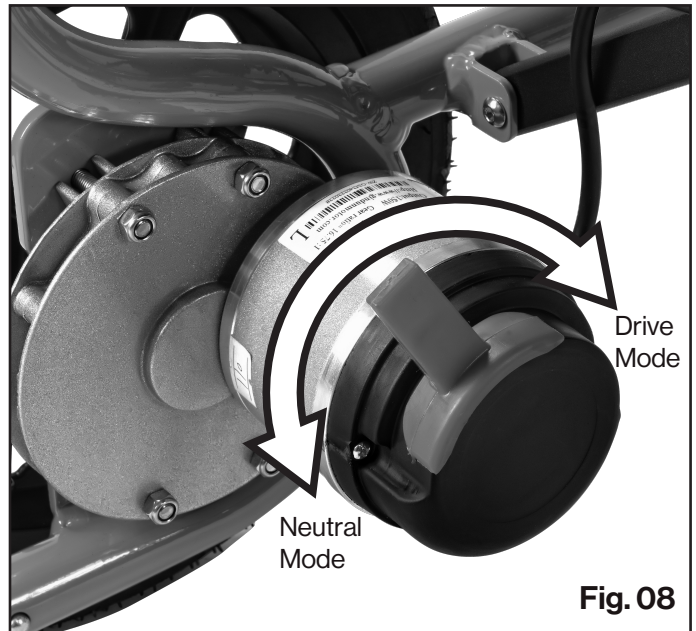

Fig. 08
7. Manually push wheelchair (Fig.08)